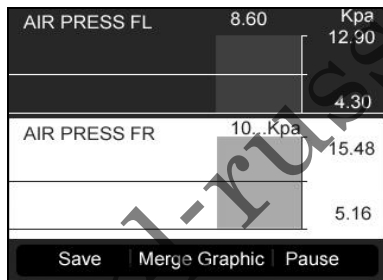

Figure 15.7
- When the sensor data is shown in graph, the tool offers two more options: **Two Graphic** and **Merge Graphic**. The first option can display two graphs on the same screen (Figure 15.7), and the last option can merge the two graphs into one. (Figure. 15.8)